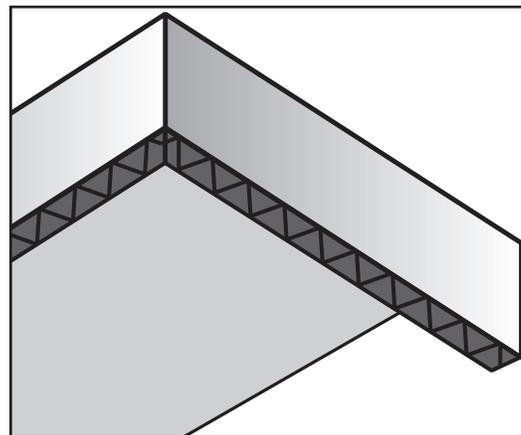

Figure 7
**Figure 7** shows the Omega-Lite panel after the bend locations have been folded.